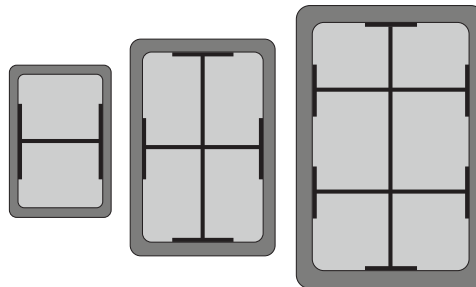

Fig. 2-1, Vault Bracing Configurations
3. Install bracing within the vault to protect the sides from bowing during backfilling. Suitable bracing could be one or multiple wooden 2×4's cut to length and installed snug against the inside walls of the vault (see Fig. 2-1). Install the cover and bolts to prevent debris from entering the enclosure and help maintain box rigidity during the backfilling procedure.